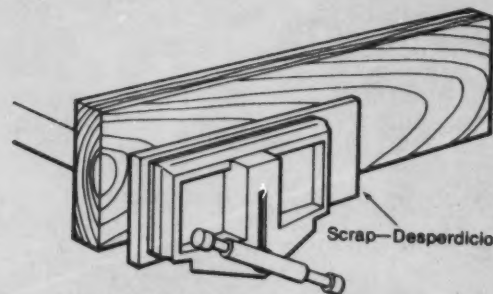

Figure 5-20 Board held in a bench vise
2. Clamp the board in the vise with the edge about 2 or 3 inches above the top of the **vise jaw** so that you can push the plane with the grain of the wood (*Figure 5-20*).